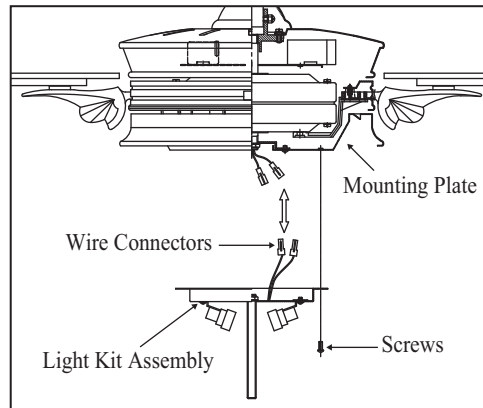

Figure 17
2. While holding the light kit under your fan, Make the polarized plug connections: (Figure 17)
3. Place the key holes on the light kit assembly over the 2 screws previously loosened from the mounting plate, turn light kit assembly until it locks in place at the narrow section of the key holes. Secure by tightening the 2 screws previously loosened and the one previously removed. (Fig. 17)